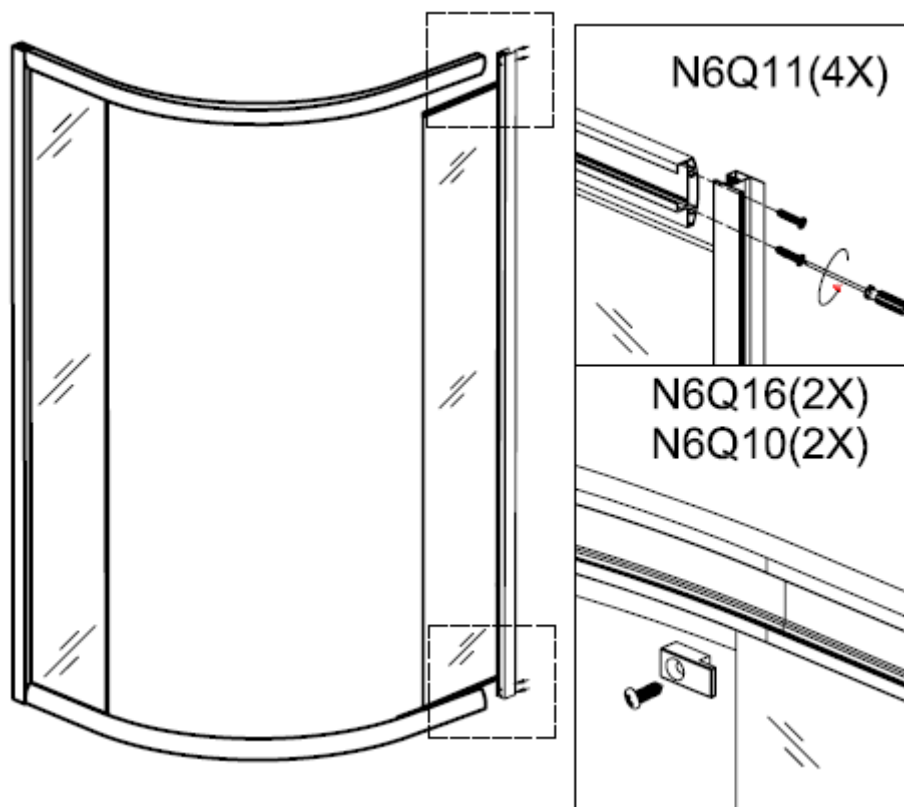

Figure 6
6. Do the same way as step 5 on the other side,as showed in figure 6.